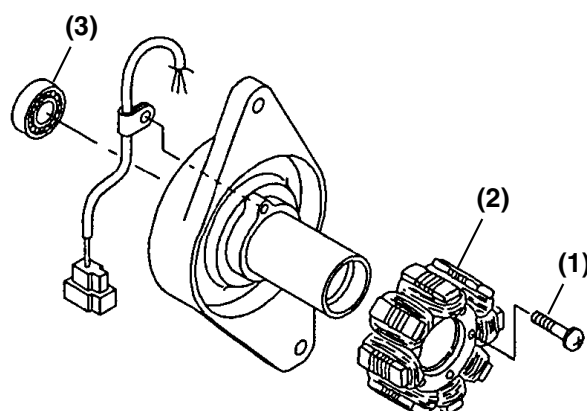

Figure 12-27
1. Reinstall the rear bearing (**Figure 12-27, (3)**).
2. Reinstall the stator (**Figure 12-27, (2)**) and screws.